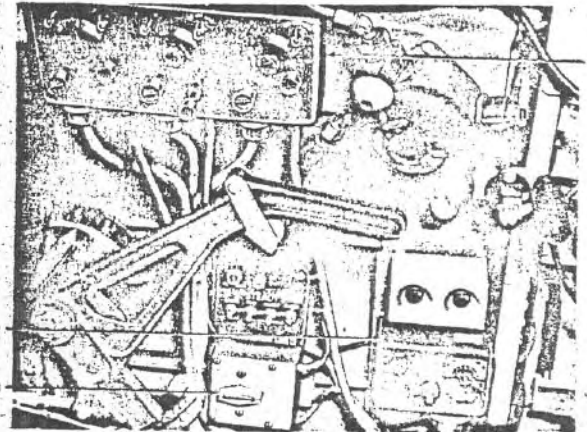

Figure 44—SCR-274-N Radio Controls
(4) Depressing the "OFF" push-button on top of the control box turns off both receiver and transmitter.
c. RADIO SET SCR-274-N (Figure 44).